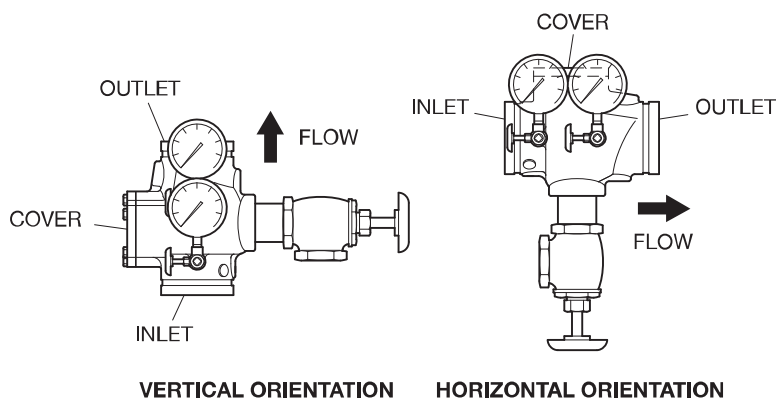

FIGURE 6
3. Valves installed horizontally must be positioned with the Cover facing up. Refer to Figure 6.